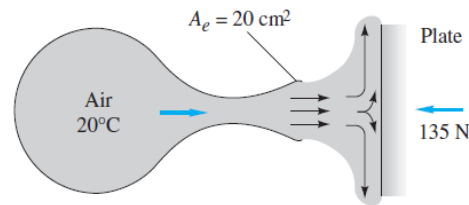

Fig. 9.6
- 9.6 Air flows steadily from a reservoir at 20°C through a nozzle of exit area 20 cm² and strikes a vertical plate as in Fig. 9.6. The flow is subsonic throughout. A force of 135 N is required to hold the plate stationary. Compute a) V_e , b) Ma_e , and c) p_o if $p_a = 101$ kPa.